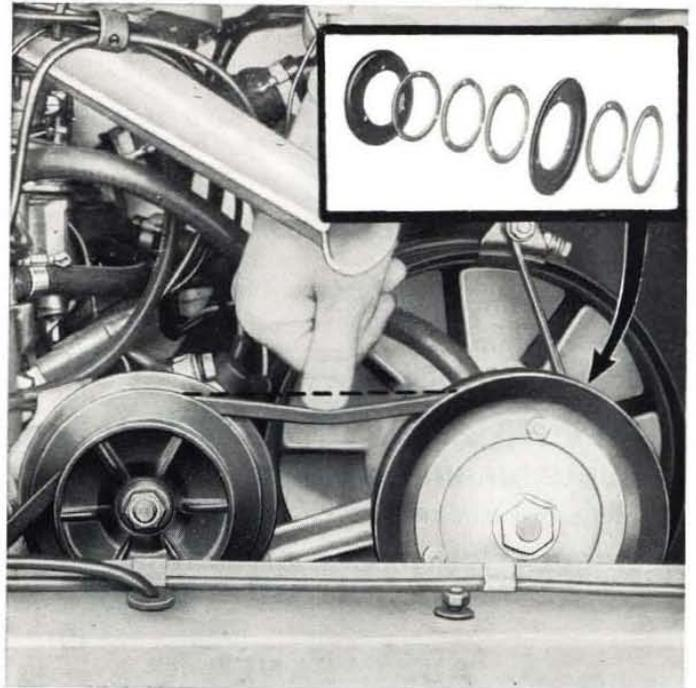

Fig. 137 - Checking tension of generator and water pump drive belts.
Correct tension of drive belts is obtained when, under a load of 22 lbs (10 kg), deflection ranges between .394" (10 mm) and .591" (15 mm) (fig. 137).
- take out pulley half and shift one or more shims outside (fig. 137);